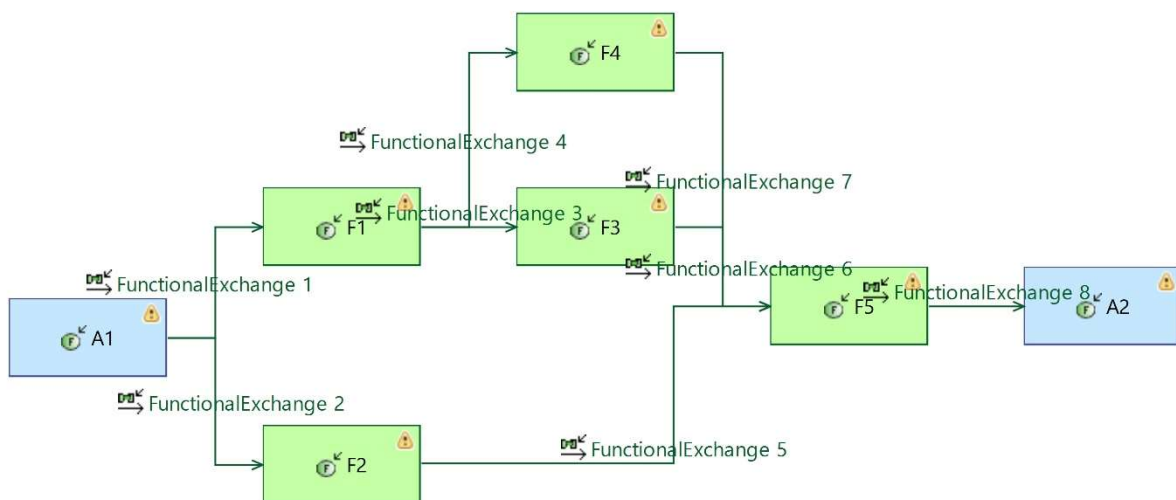

Figure 4 Functional Chain Description
- Press [Right Mouse Button] on the name of the Functional chain (e.g., FunctionalChain 1), choose New > Functional Chain Description; choose a name, e.g., default *[LFCD] FunctionalChain 1*. See Figure 4. Note that warning and errors might appear; they can be resolved later.